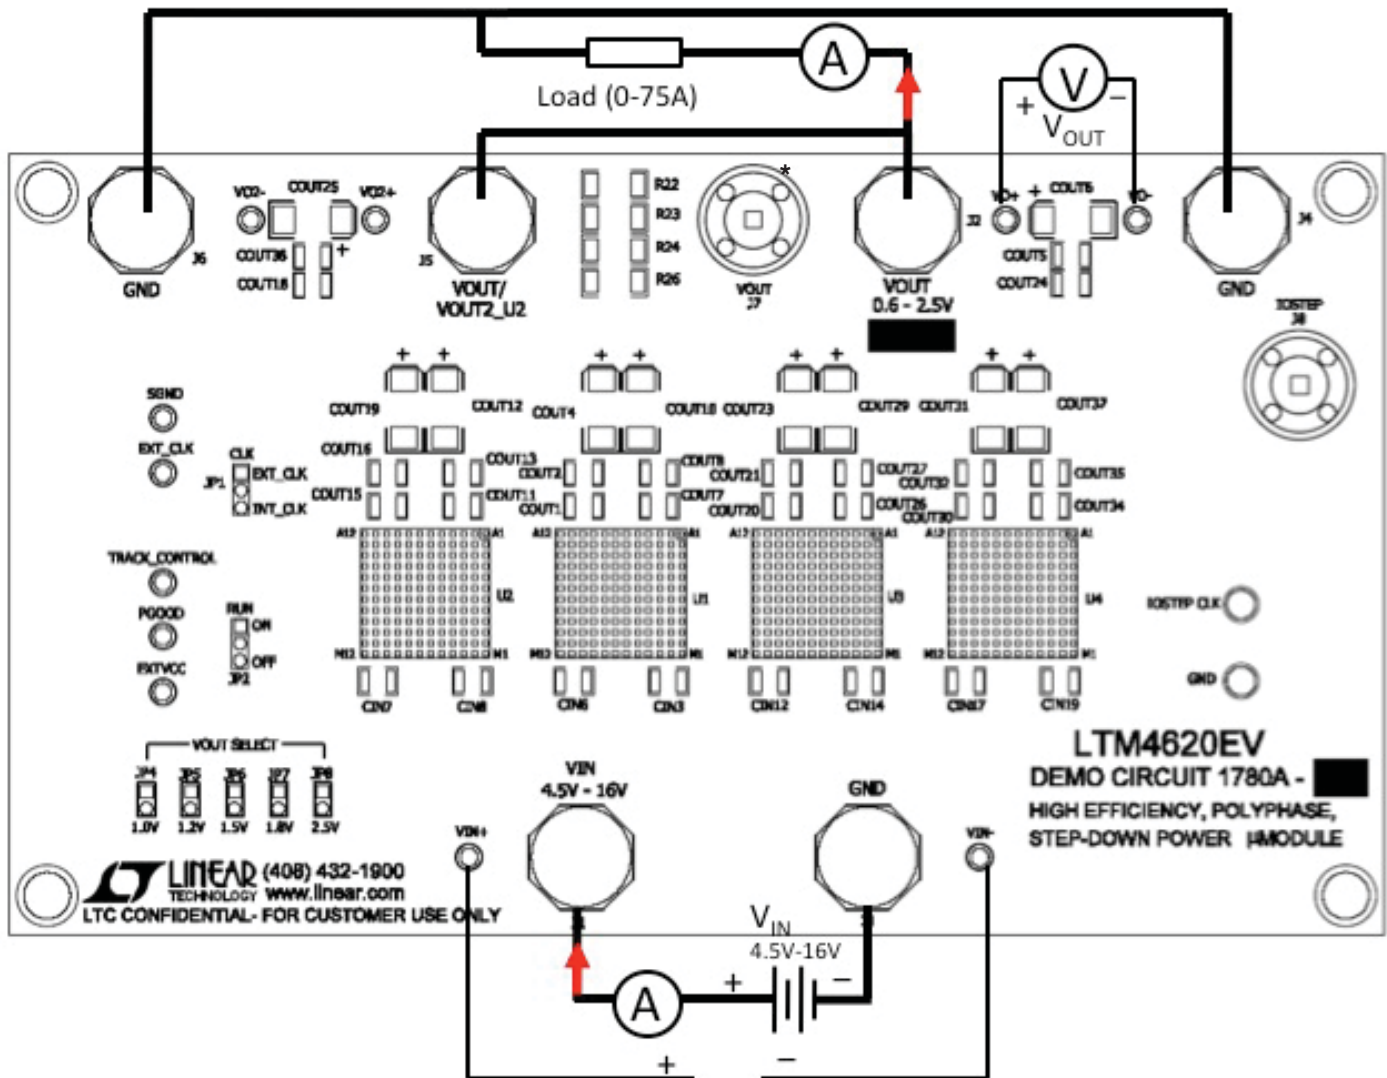

Figure 2. Test Setup of DC1780A-B
Demonstration circuit DC1780A-B is easy to set up to evaluate the performance of PolyPhase operation of the LTM4620EV. Due to the high input/output current, select a proper input supply/load/cable which can sustain the full load operation. Please refer to Figure 2 for proper measurement setup and follow the procedure below:
2. With power off, connect the input power supply, load and meters as shown in Figure 2. Preset the load to 0A and V_{IN} supply to 12V.